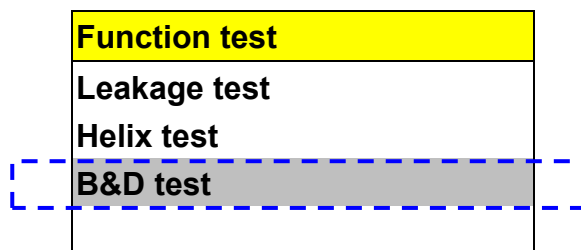

Figure 109
- D. Press  or  button to select B&D Test program (Figure 109).